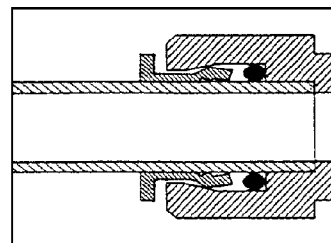

FIG. 3B
1. To install a tube, lubricate the tubing end with water (only) and push it through collet until it seats firmly at bottom of fitting (Figure 3B). You should feel the tubing pass the O-rings. Cut ends must be square. Be sure the tubing is smooth and free of abrasions, otherwise a leak may result. Cut tubing only with a new razor blade.